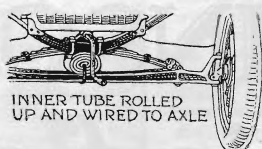

Fig. 8. A rolled-up inner tube will act as shock absorber if a spring should weaken
**A**N OLD inner tube rolled up and wired to the center of the axle as shown in Fig. 8 can be used to prevent the frame from coming down solidly on the axle when you drive over an exceptionally heavy bump. It will also prove useful in case you break one or more of the front spring leaves. In the latter case, the tube should be rolled as tightly as possible and securely wired in place so that the constant pounding of the frame will not force it out of position. Of course if the spring leaves have broken in such a way that the pieces do not even keep the axle in position sidewise, you will have to use a piece of rope lashed around the shackles and the center frame to keep it lined up properly. At any rate you should drive with caution when anything is broken.